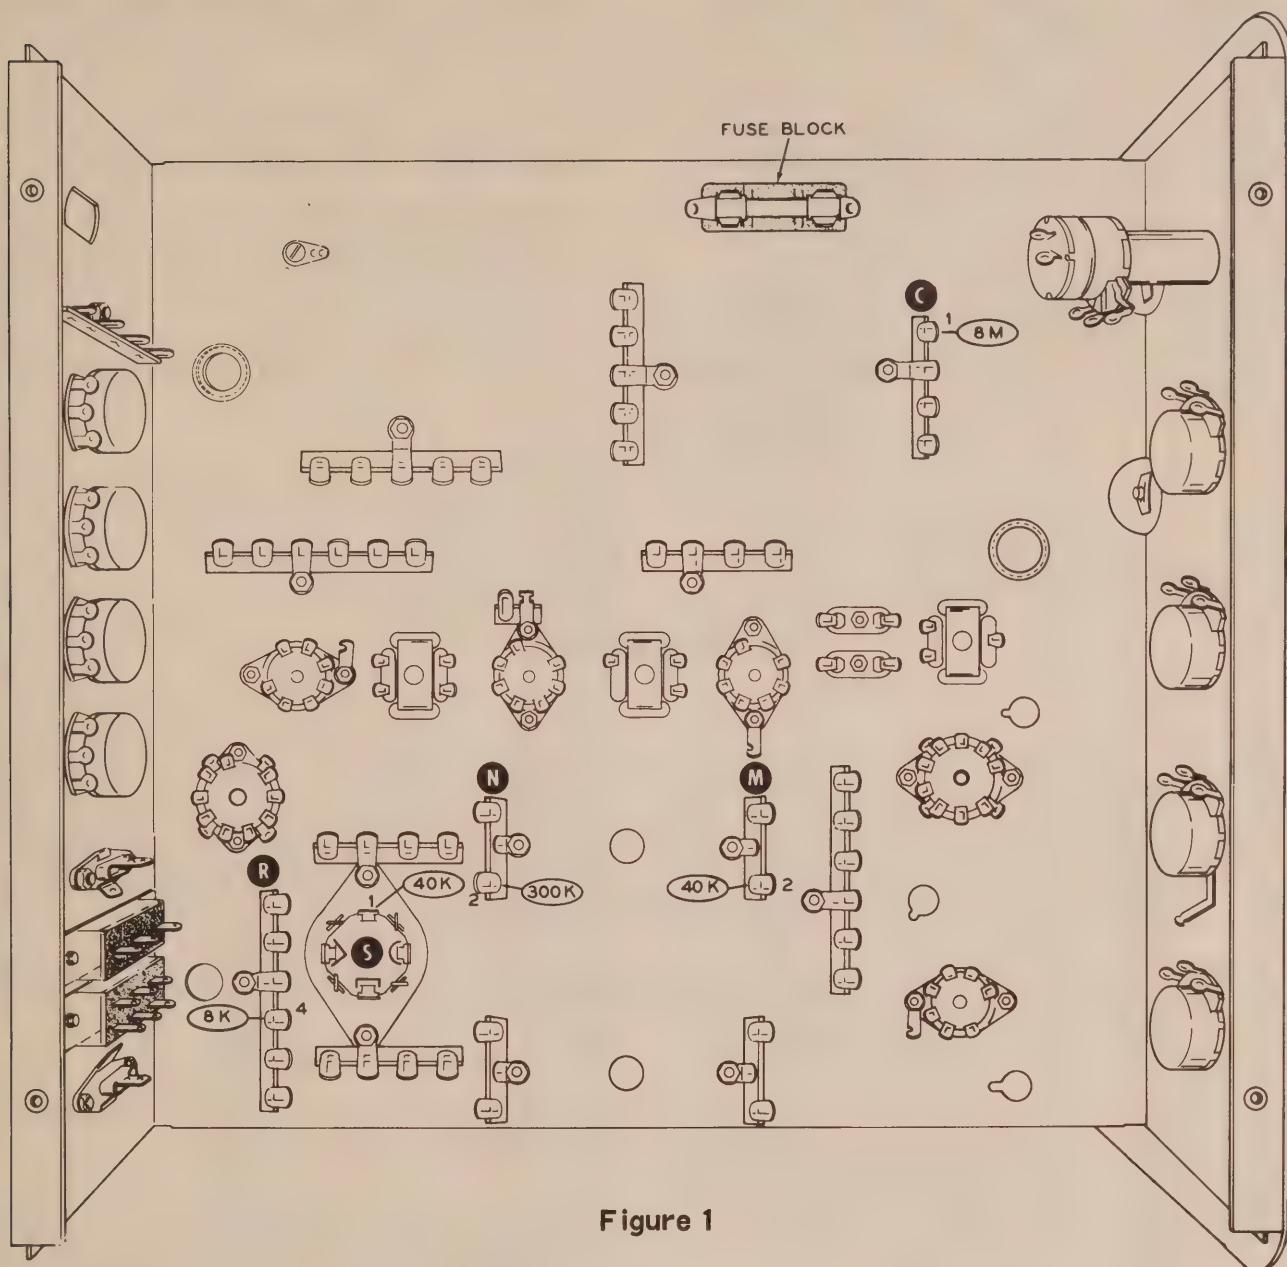

Figure 1
- () Install a 1/2 ampere slow-blow fuse in its holder as shown in Figure 1.
Figure 1 enables you to identify the test points and shows the resistance to be expected at each. Due to component and meter tolerances, readings can vary up to 20%.